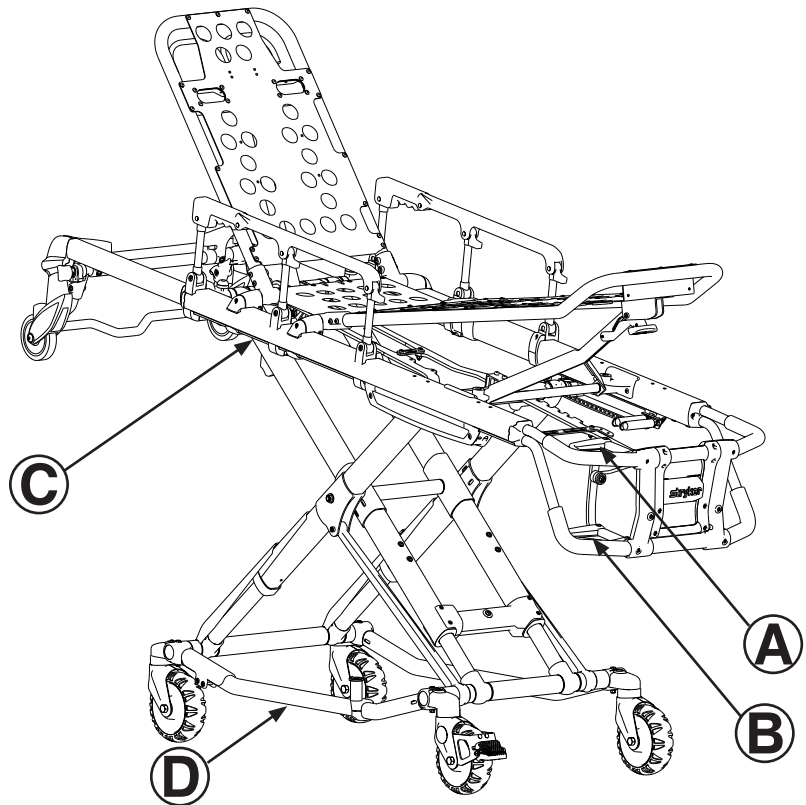

Figure 13: Adjusting the Cot Height
1. The operator at the foot end of the cot squeezes the release handle (A or B) while a secure grip is maintained on the lifting bars (see Figure 13).
2. The operator on the patient's right or left (depending on the location of the release handle) reaches the release handle at the midpoint of the litter (C). Both operators must lift the cot until the weight is off the latching mechanism (approximately 1/4") (see Figure 13).
4. **Operator 1** – Grasp the cot frame at the foot end. Lift the foot end of the cot until the weight is off of the latching mechanism. Squeeze and hold the release handle (A or B, as shown in Figure 13 on page 27).